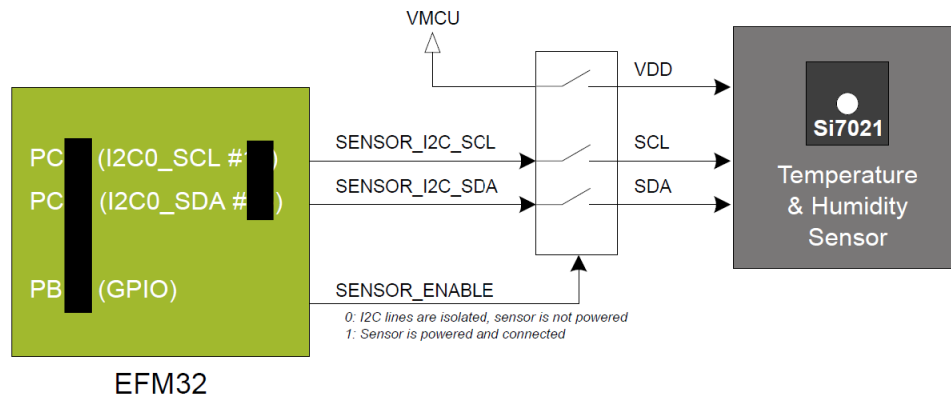

Figure 6.4. Si7021 Relative Humidity and Temperature Sensor
1. To locate what pins are connected / routed from the Pearl Gecko to the Si7021, open up the Pearl Gecko STK3402 Start Kit document and go to figure 6.4. I have blackened out several key pieces of information so that you will need to find this documentation in the Pearl Gecko STK3402 Start Kit document.
2. In the Pearl Gecko STK3402 Starter Kit document, go to figure 6.4. Complete the below definitions based on the information to the left of each signal in figure 6.4 for the below `#define` statements in brd\\_config.h.
- iv. From Figure 6.4, you will notice that there are three control signals that go from the Pearl Gecko to the Si7021. The SENSOR\\_ENABLE bit is used to select via an external device to the Pearl Gecko whether the Pearl Gecko pins are connected to the Si7021.
1. In Figure 6.4, under SENSOR\\_ENABLE, it provides the information on whether SENSOR\\_ENABLE must be ASSERTED, 1, or DEASSERTED, 0, to connect the two devices